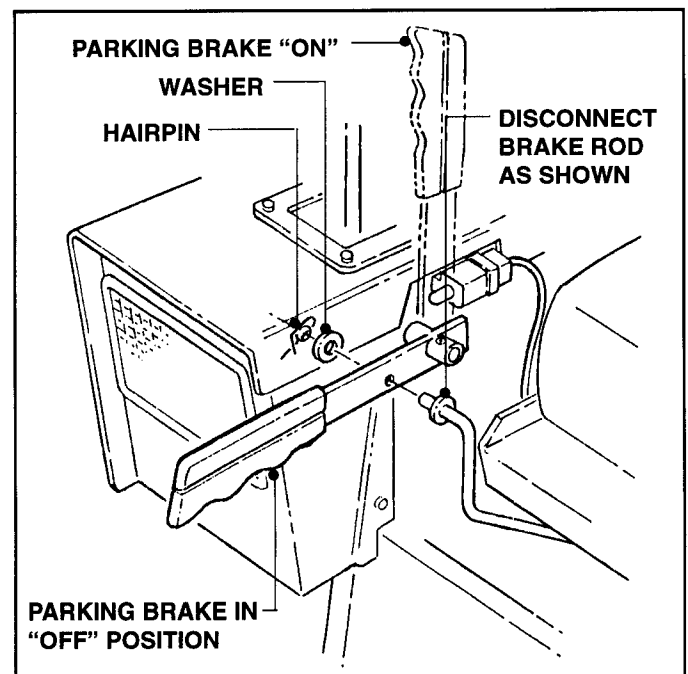

FIGURE 6.2
- c) Disconnect Brake Rod from Parking Brake. See Figure 6.2.